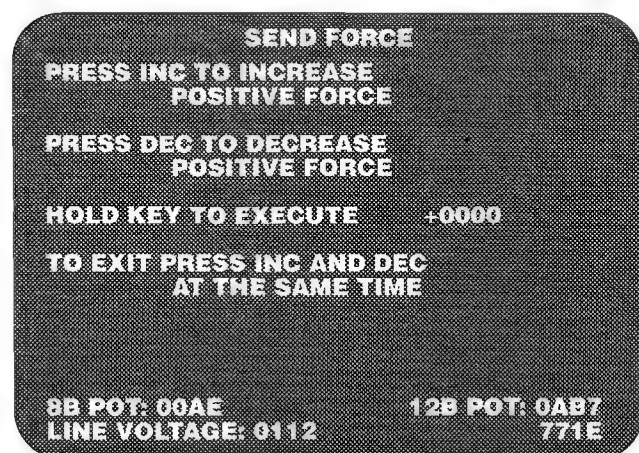

Figure 2-21 Send Force Screen
- Steering Wheel* has a submenu explained below and shown in Figure 2-21.
Use these item if you believe you have a problem with the steering assembly or the steering motor amplifier PCB. The screen is shown in Figure 2-21.
- *Send Force* sends a steady force to the Motor Amplifier PCB. See Figure 2-21.
- *Sine Wave* sends a sine wave force to the Motor Amplifier PCB. This screen is similar to Figure 2-21.
- *Square Wave* sends a square wave force to the Motor Amplifier PCB. This screen is similar to Figure 2-21.
- *Triangle Wave* sends a triangle wave force to the Motor Amplifier PCB. This screen is similar to Figure 2-21.